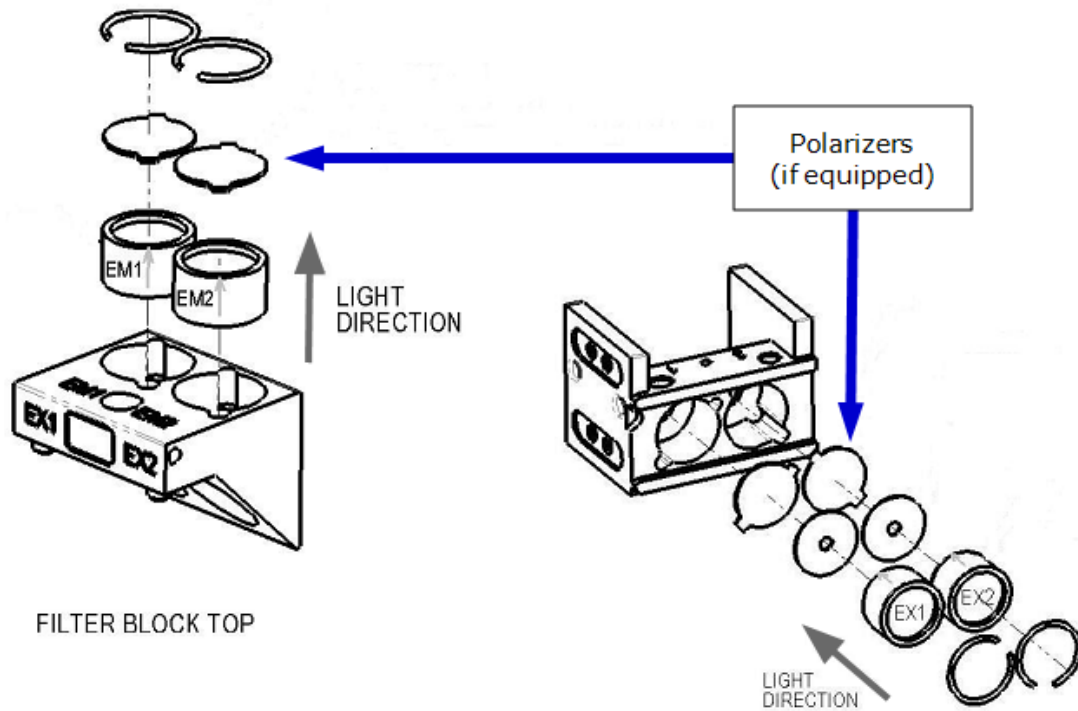
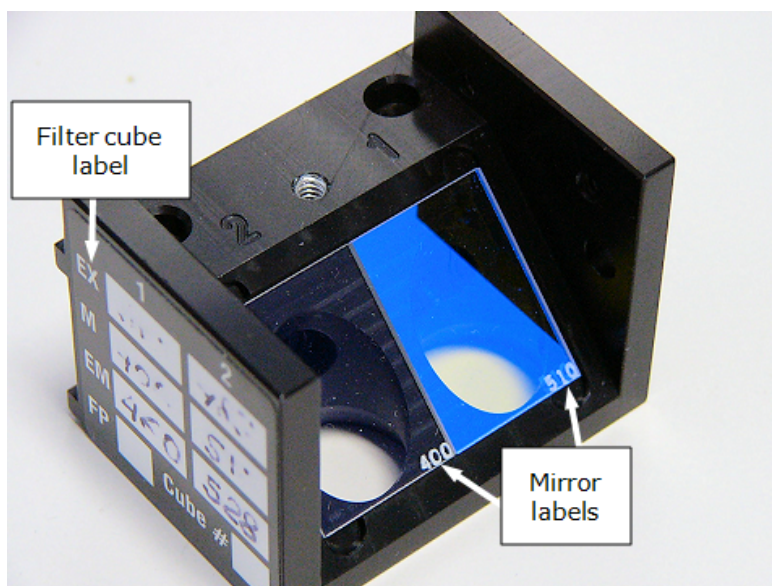

Figure 4-2: Proper orientation of the EX (left) and EM (right) filters in the filter cube
Figure 4-3: Two half-size mirrors positioned in the filter cube, with their labels in the lower-right corners
Filters are not specific to either excitation or emission. *Filter direction* within the filter cube is important, and as illustrated in Figure 4-2, the direction differs depending on the filter's placement in the cube (EX or EM). Each filter has its central wavelength and bandpass values printed on its side, with an arrow to indicate the proper direction of light through the filter.
*Mirror direction* is also important. The mirror label should be in the lower-right corner of the mirror and readable (see Figure 4-3 on the next page). If the mirror is positioned incorrectly, your measurement data may be inaccurate.
1. Ensure that all filters, plugs, and mirrors are inserted properly in the filter cube (see Figure 4-2 and Figure 4-3).
- a. Make note of the mirror placement and label orientation (refer to Figure 4-3 on page 48).
- a. Orient the filter as shown in Figure 4-2 on page 47, observing the arrow on its side which indicates the light direction. Drop the filter or plug into the desired location.
2. To replace a mirror, hold the mirror by its edges, turn it so that its label is face-up and readable (see Figure 4-3 on page 48), and place it on the shelf in the filter cube.